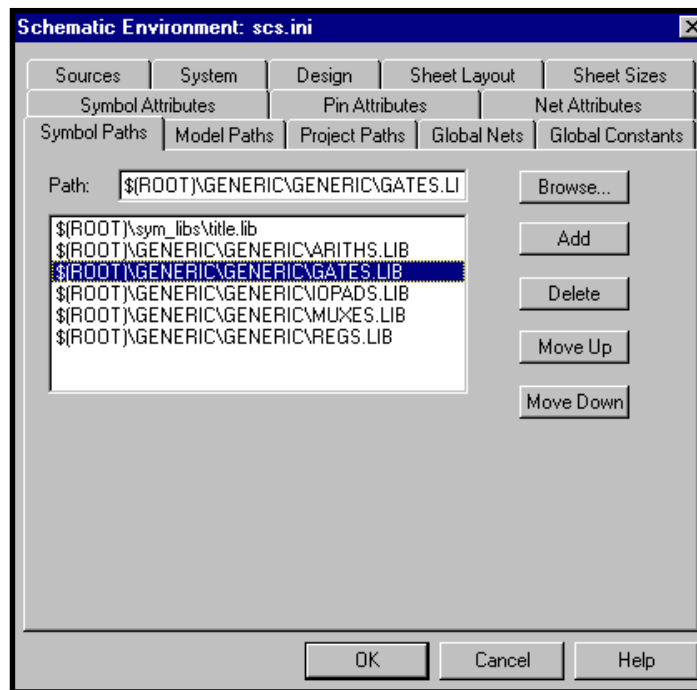

Figure 9-6. Symbol Paths Window
1. Select a desired path tab in the INI Editor dialog box (Figure 9-6).